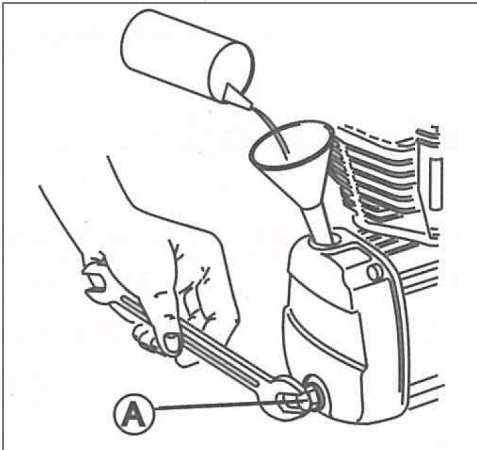

Fig. 11: Oil change
Remove the oil filling screw or the plug or oil dipstick, screw out the oil drain screw (A) (Fig. 11) and collect the used oil in a corresponding container.
Step 2: Examine the check valve and change the sealing element D (Fig. 11) if necessary.